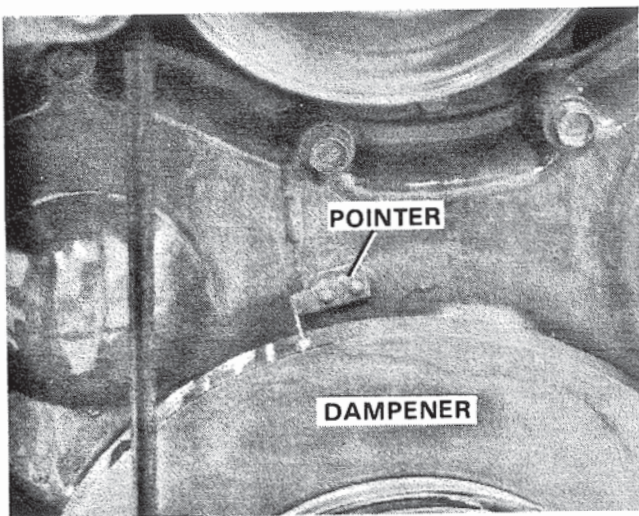

Figure 10. Setting Timing.
A. Set No. 1 piston at top dead center (TDC) on compression stroke. Align TDC mark on crankshaft dampener with timing pointer on timing gear case. Figure 10.